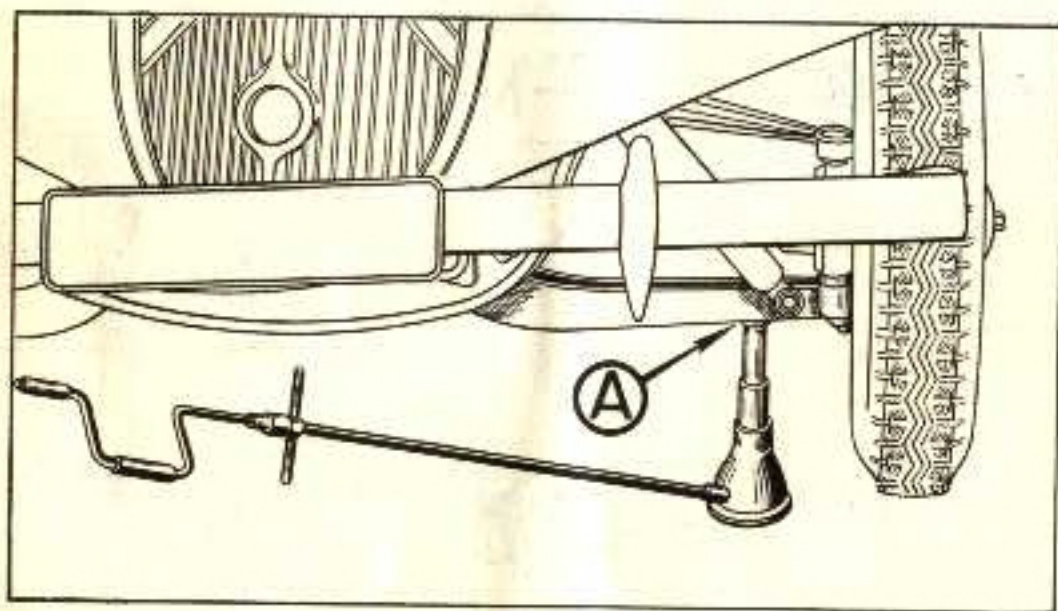

Fig. 5. — FRONT JACKING POSITION.
—at the front, under the boss at the outer end of the lower link arm (fig. 5);
**Use of the jack.**—Unscrew the head of the jack by hand until it will just go under the jacking pad A or C (fig. 5 or 6); rotate the jack handle until the car starts to lift, then use the wheelbrace; do not try to strain the jack when it is extended.